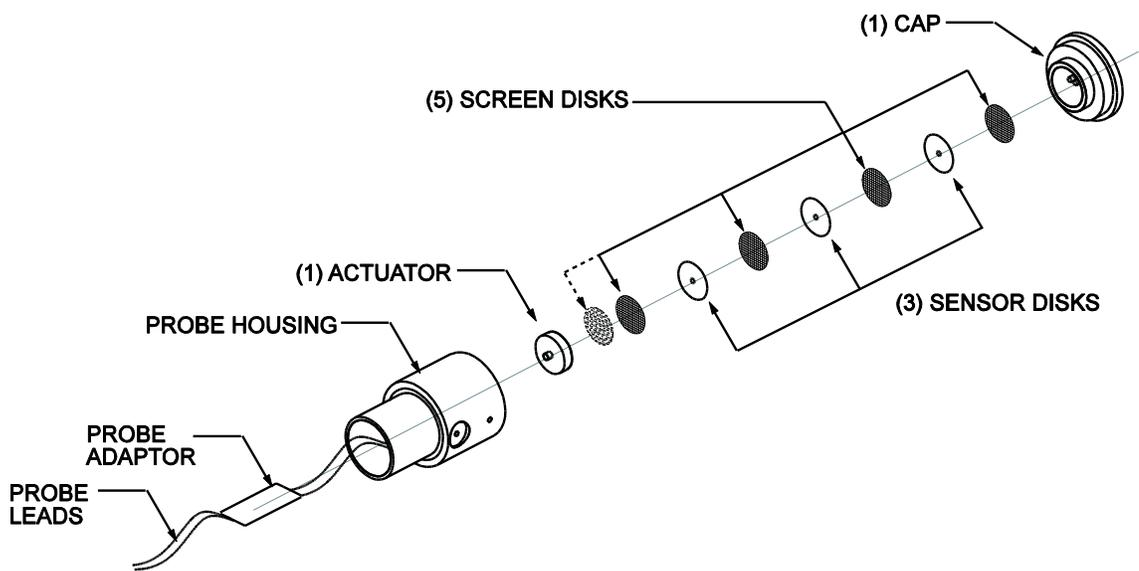

Figure 15
The replacement sensor package consists of 8 disks: 5 screen disks and 3 sensor disks as shown in Figure 15. The replacement package includes all removable parts: probe cap, sensor elements, and actuator. Replacement sensor elements only can also be purchased.
6. Reassemble the switch. Carefully alternate the 4 screens and 3 sensor disks in the cap as shown in Figure 15. Place the actuator on top of the top screen. The actuator has a small point in the center of one side that must face the probe housing as shown. Hold the probe housing vertically and screw the cap finger-tight into the bottom of the housing.